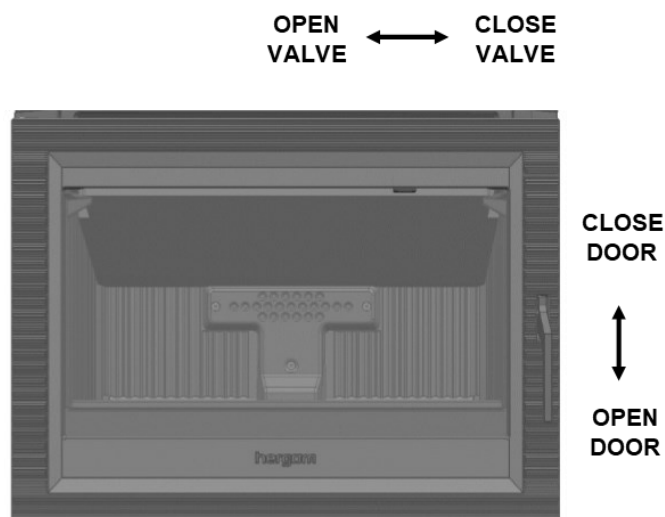

FIG. 2
To close the door, grasp the handle and gently push the door to the stove. You must use a heat-protective mitten. (Fig. 2).
The intermediate position is usually the ideal adjustment, depending on the quality of the draw of the chimney installed and on the type of fuel being used (hard or soft wood) (Fig. 2).
1. Fully open the appliance's air control valve (Fig. 2).